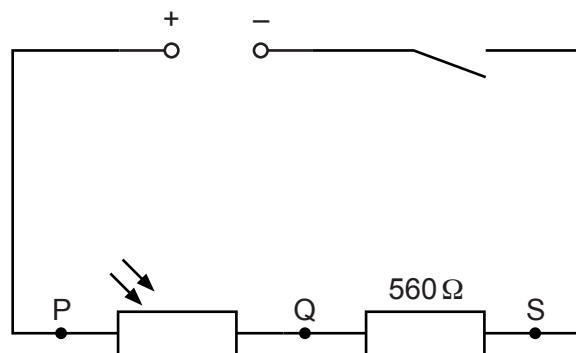

Fig. 1.1
- sufficient connecting leads to assemble the circuit shown in Fig. 1.1.
- 1 The supervisor must assemble the circuit shown in Fig. 1.1 for the candidates in advance of the examination.
The circuit must be restored to its original state as shown in Fig. 1.1, with the switch open, and the voltmeter removed and placed by the side of the circuit.